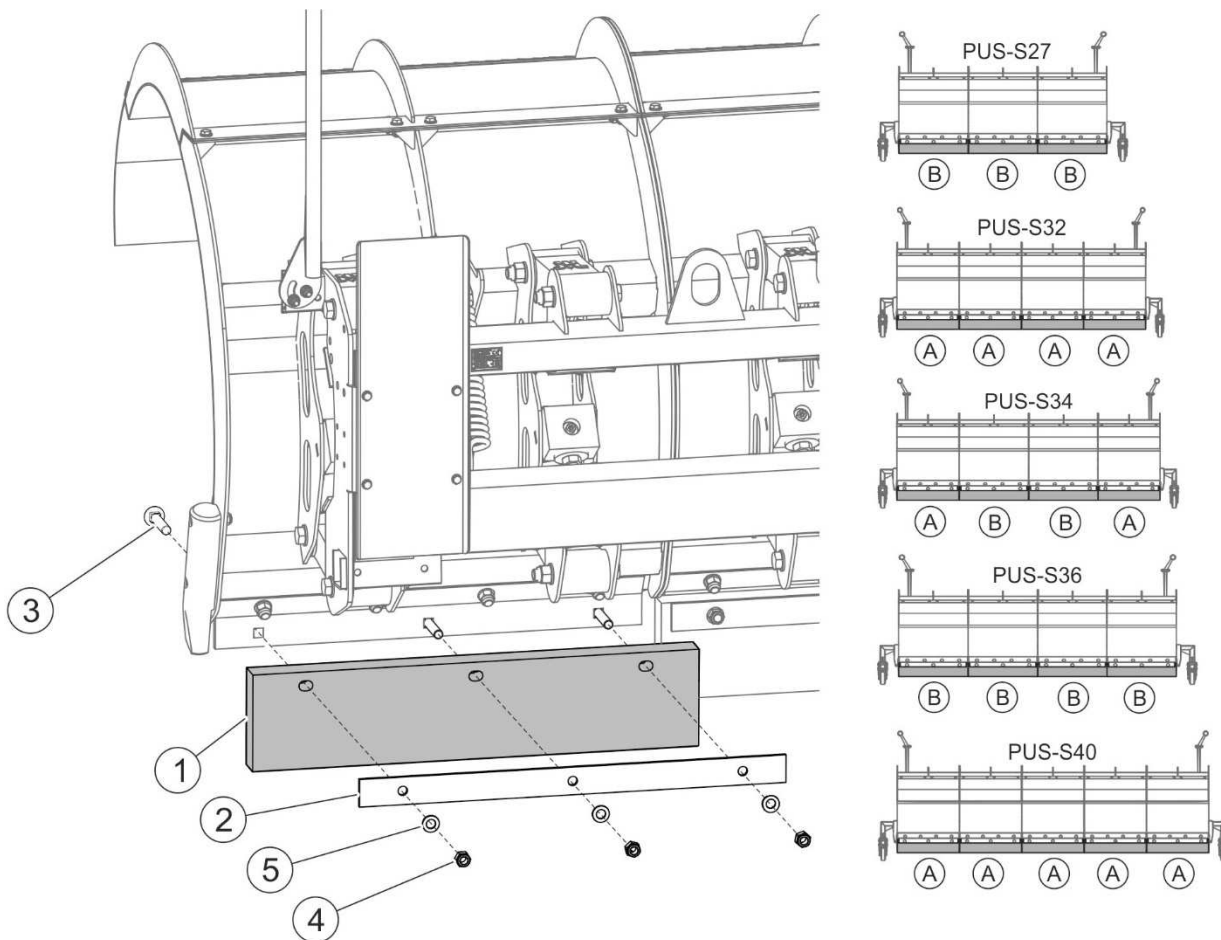

FIGURE 5.1 Replace rubber blades.
(1) - rubber plough blade; (2) - clamping strip; (3) - bolt; (4) - nut; (5) - spring washer; (A) - short segment; (B) - long segment
To remove a rubber plough blade (FIGURE 5.1), unscrew nuts (4) of an appropriate segment, remove bolts (3) and remove the clamp strip (2). Fit an appropriate segment of plough blade (A) or (B), depending on the plough model (TABLE 5.1). Install in reverse order.